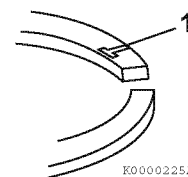

Figure 6-86
- Reinstall the top and second piston rings with the stamped “makers mark” (**Figure 6-86 (1)**) facing the top of the piston. The “makers mark” may vary in appearance but will always be located on the top surface of the piston ring adjacent to the piston ring gap. The oil ring and oil ring expander can be installed either side up.